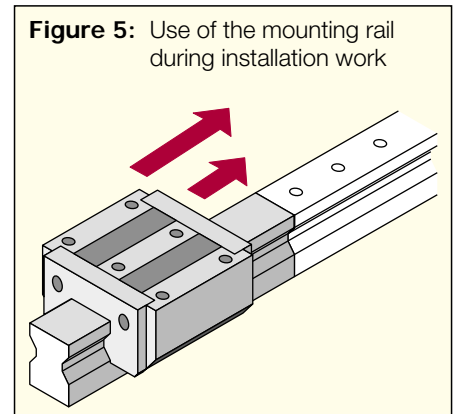

Figure 5: Use of the mounting rail during installation work
- If at all possible, always leave the carriages on the rail. For removing a carriage from the rail and when sliding it on again, always use a mounting rail MRM in the case of MONORAIL MR (figure 5). For MONORAIL BM a mounting rail MBM is recommended to facilitate the installation. It can be done without it when the carriages are carefully moved from and on the rail.